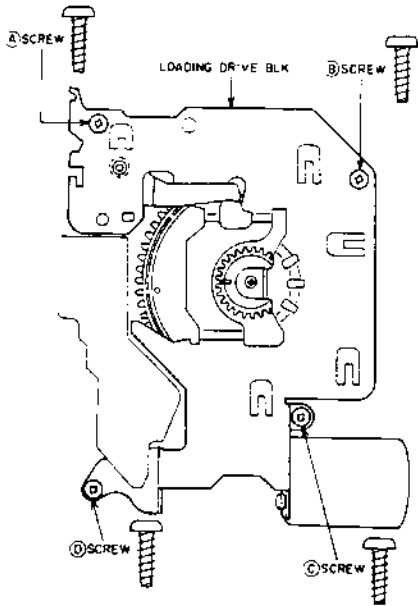

Fig. 4-15
- 2) Install the **LOADING DRIVE BLK** as shown in Fig.4-15.